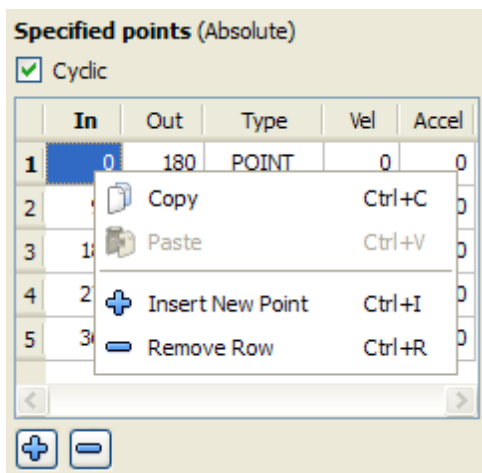

Figure 9-8: Cam Table Contextual Menu
- Use the menu in the cam table (shown in "Figure 9-8: Cam Table Contextual Menu " on page 336)